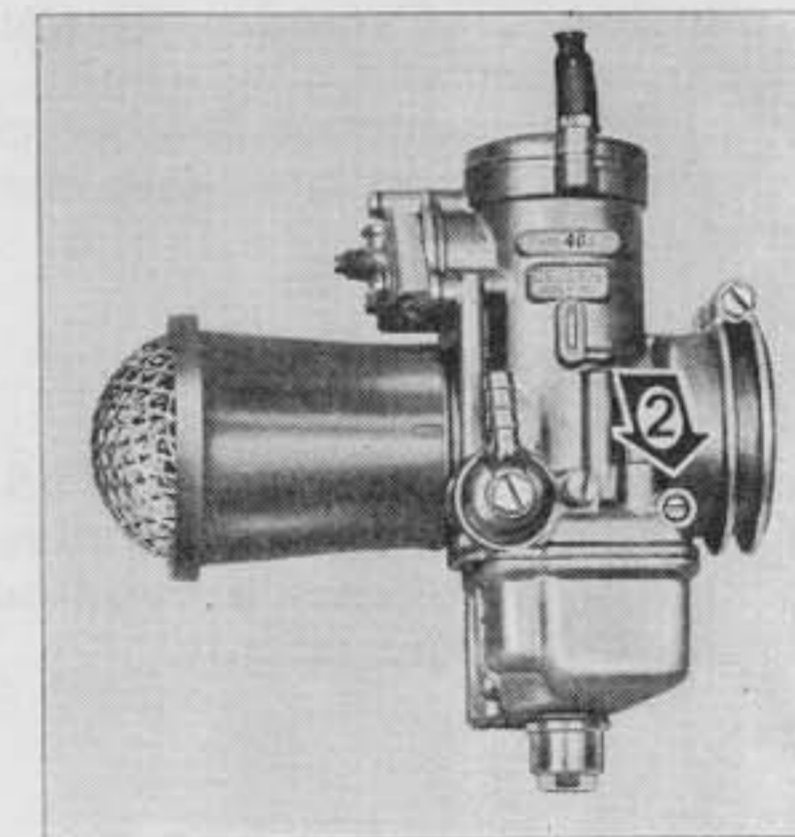

Fig. 4
- 2) then screw or unscrew the mixture adjusting screw "2" to obtain the fastest tickover (see Fig. 4).